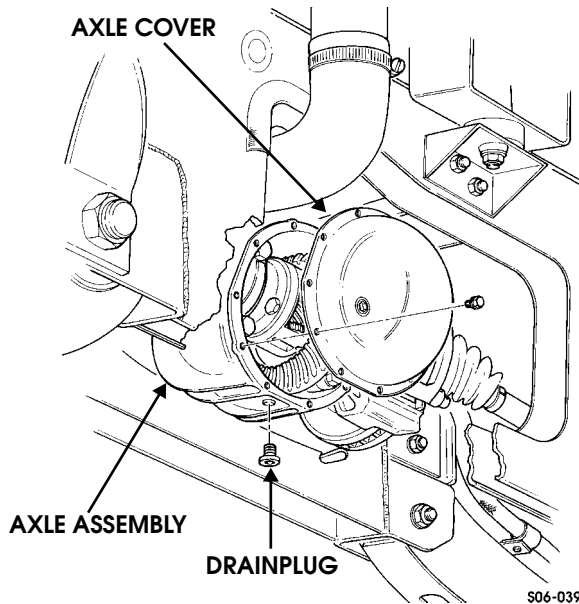

Figure 9-51: Axle Assembly Cover Service
1. Remove drainplug from axle assembly and drain axle assembly (Figure 9-51).
1. Clean axle assembly cover, bolts, and axle assembly with solvent (Figure 9-51).
2. Thread drainplug into axle assembly and tighten to 13-18 lb-ft (18-25 N•m) (Figure 9-51).